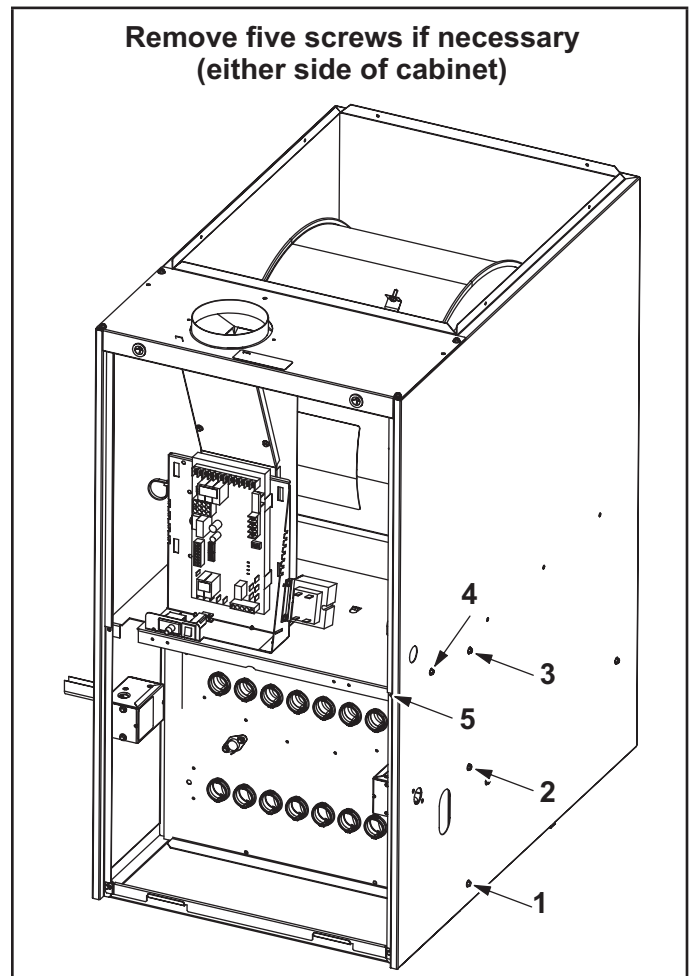

FIGURE 22
- 9 - Remove heat exchanger. It may be necessary to spread cabinet side to allow more room. If so, remove five screws from the left side or right side of cabinet. See FIGURE 22.